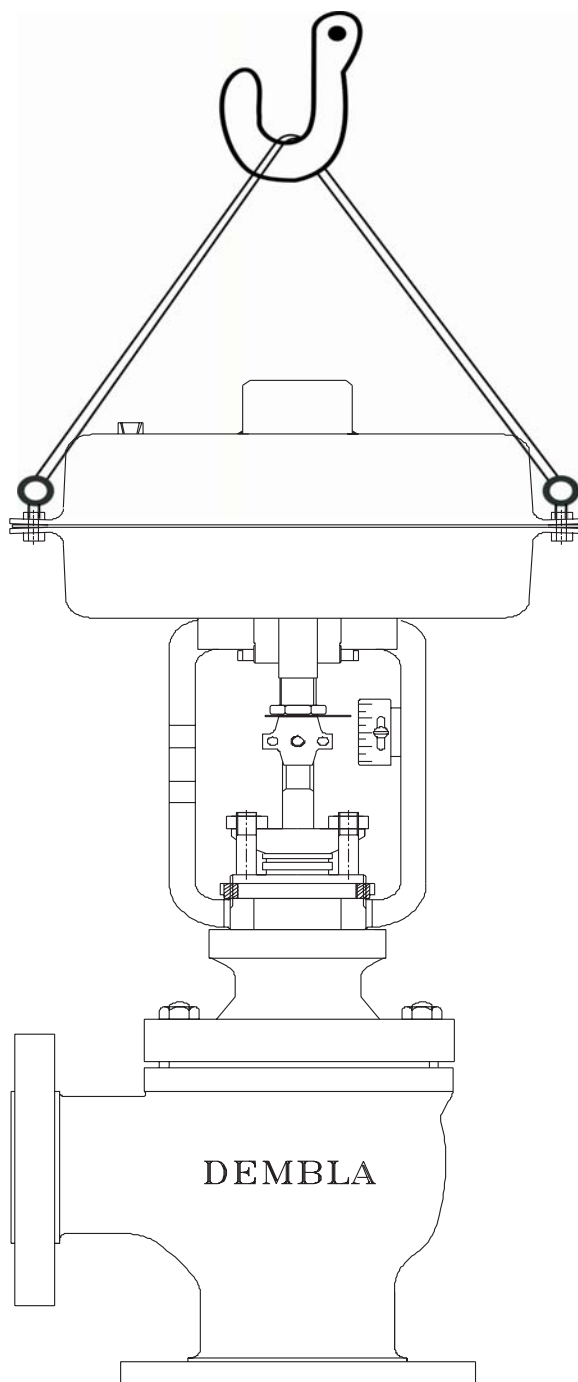

Fig. 1
- Lift the Valve properly as shown in figure 1
Valve should be lifted by using chain or bearer cables that are looped around the Valve Body as shown in figure 1. (Take care Valve should not damage while handling).